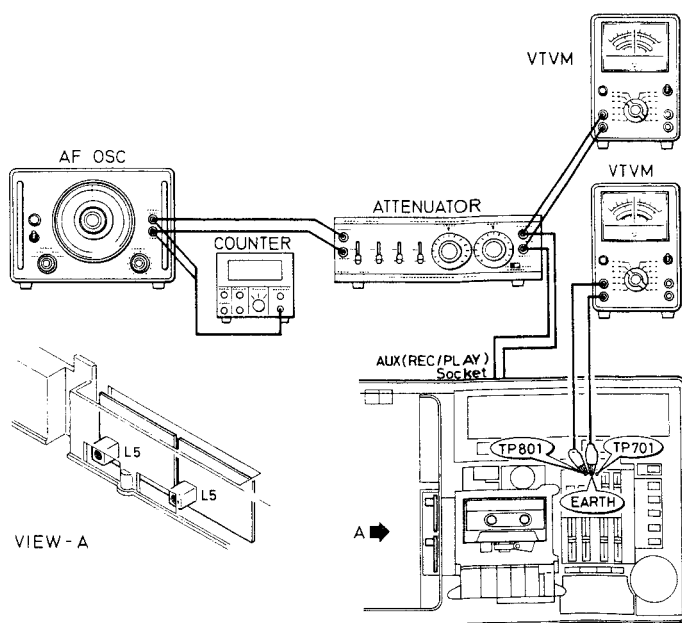

Fig. 23
- Obtain a minimum output from the TP701 and TP801 by adjusting L502 and L552. (Fig. 23)